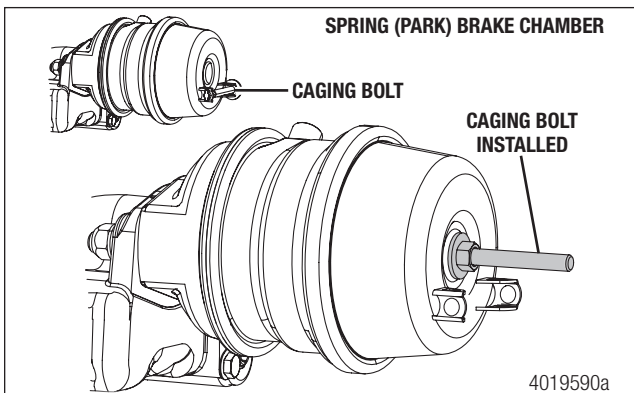

Figure 1
3. Remove all air from the air system. If the brake has a spring chamber, carefully cage and lock the spring so that it cannot actuate during assembly or disassembly. Follow the chamber manufacturer's instructions to completely release the brake. Figure 1.